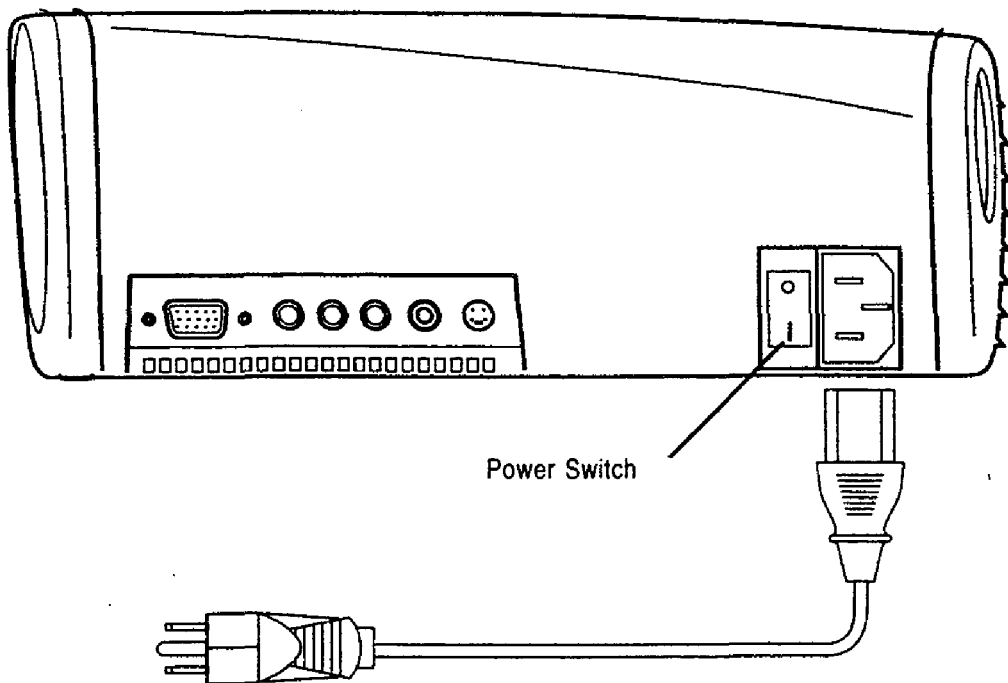

Figure 2: Connecting to Power
- 1 Insert the power cord into the AC input socket of the projector as shown in figure 2.
Flip the power switch located at the side of the projector as shown in figure 2. The following will occur.